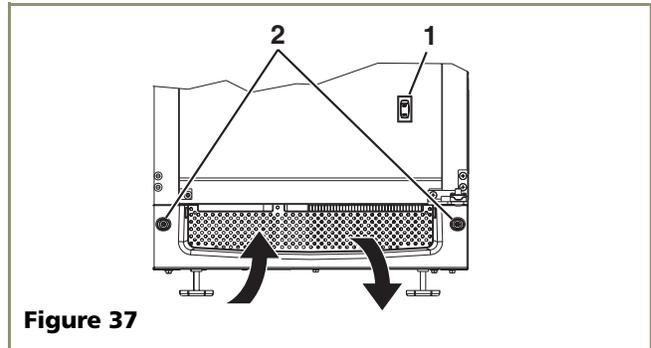

Figure 37
2. Make sure the ON/OFF switch is in the OFF position (see **Figure 37**).
Once installation and leveling is complete, the unit is ready for initial start-up and operation. The ON/OFF switch is located on the lower front panel (see **Figure 37**).